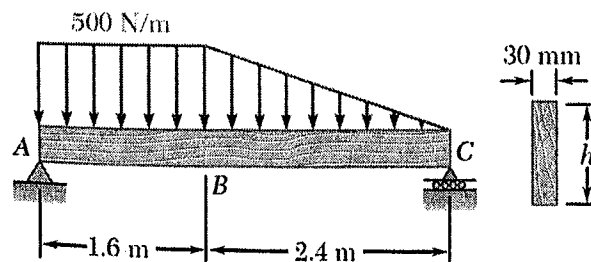

Figure 4
4. A timber beam is being designed with supports and loads as shown in Figure 4. Width of the beam is 30 mm and the height is  $h$ .